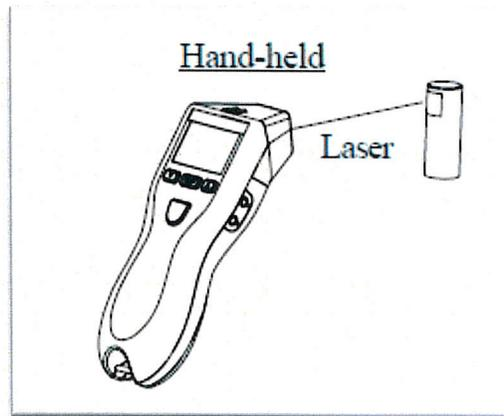
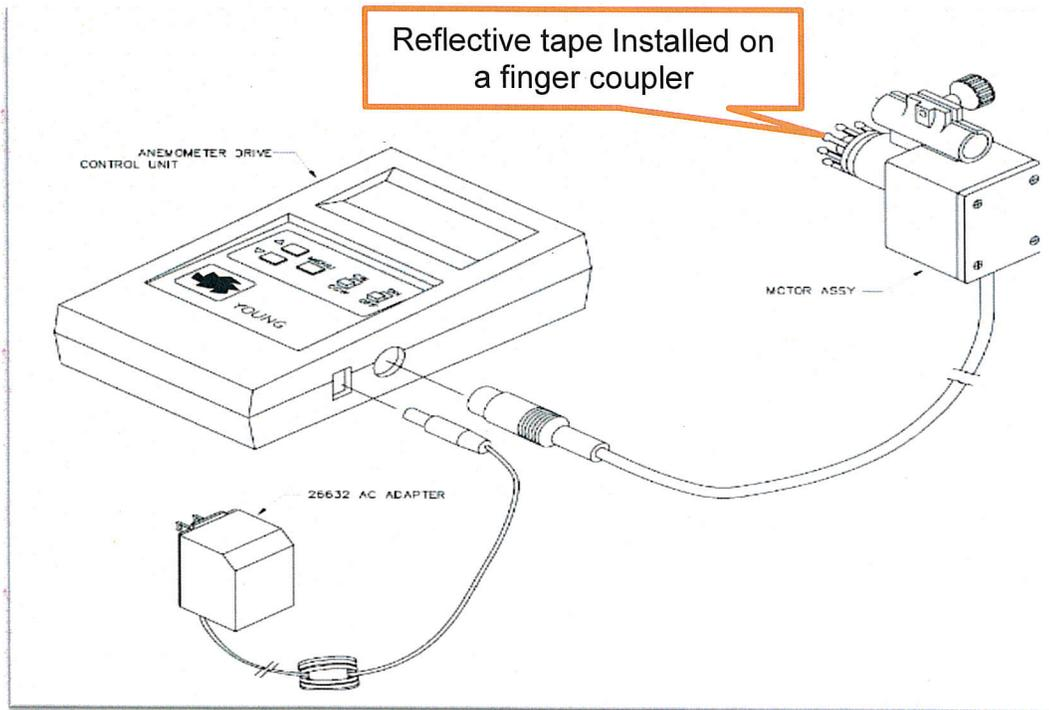

Figure 4: PLT200 in "TACHometer" Mode
Figure 5: Reflective Tape Installation
11.2 The PLT200 is now ready to perform non-contact measurements by using the optical tachometer mode. Figure 4 illustrates the PLT200 being used in the hand-held configuration. Figure 5 demonstrates the reflective tape installation on a finger coupler.